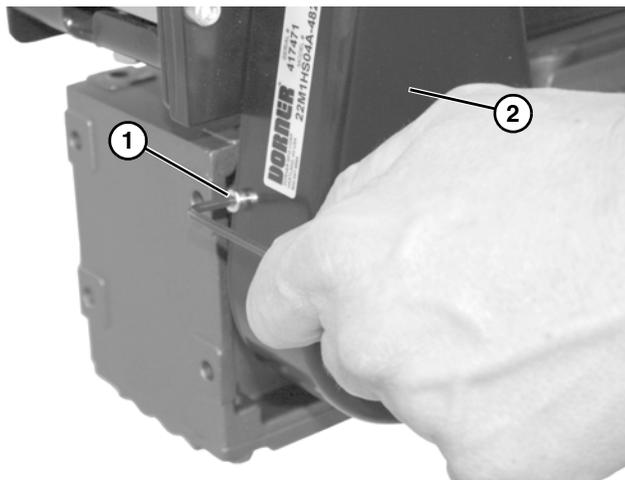

Figure 15
1. Remove four (4) screws (**Figure 15, item 1**) and remove cover (**Figure 15, item 2**).
4. Install cover (**Figure 15, item 2**) with four (4) screws (**Figure 15, item 1**). Tighten to 35 in-lb (4 N-m).